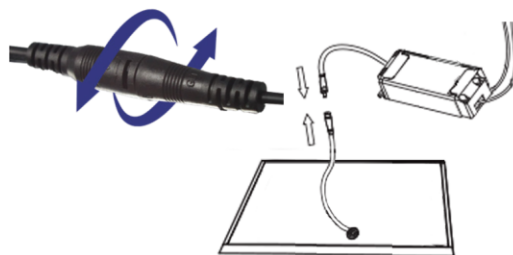

Fig.3
**Step 3:** Connect the panel light and driver, Fig.3.